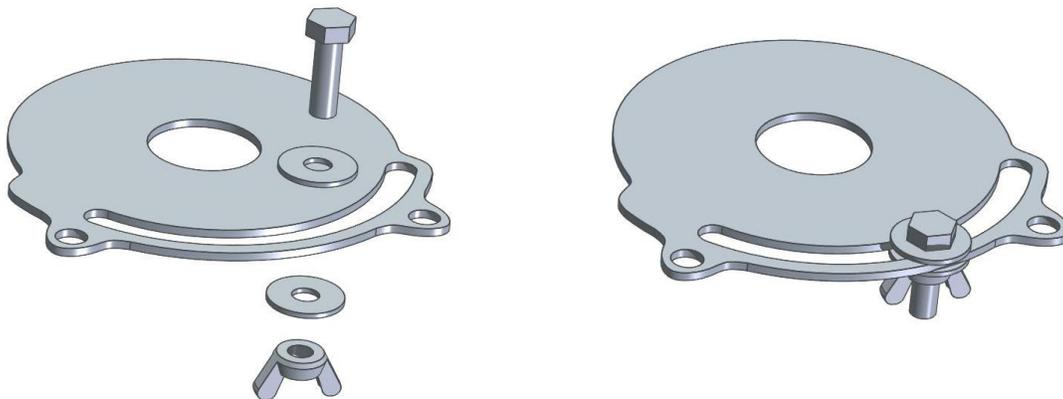

FIGURE 6. MEMORY STOP ASSEMBLY FOR INFINITE POSITION HANDLES
1. Using the bolt, washers, and wing-nut included in the infinite position handle kit, loosely assemble the parts to the infinite position plate using Figure 6 as a reference.